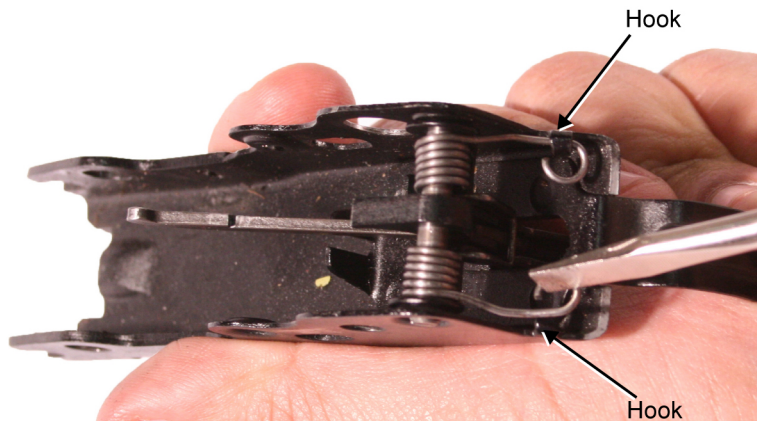

Figure 12. Secure the Ends of the Trigger Spring under the Hooks on the Trigger Housing.
4. Use a flathead screwdriver to secure the ends of the trigger spring under the hooks on the trigger housing. Refer to Figure 12.